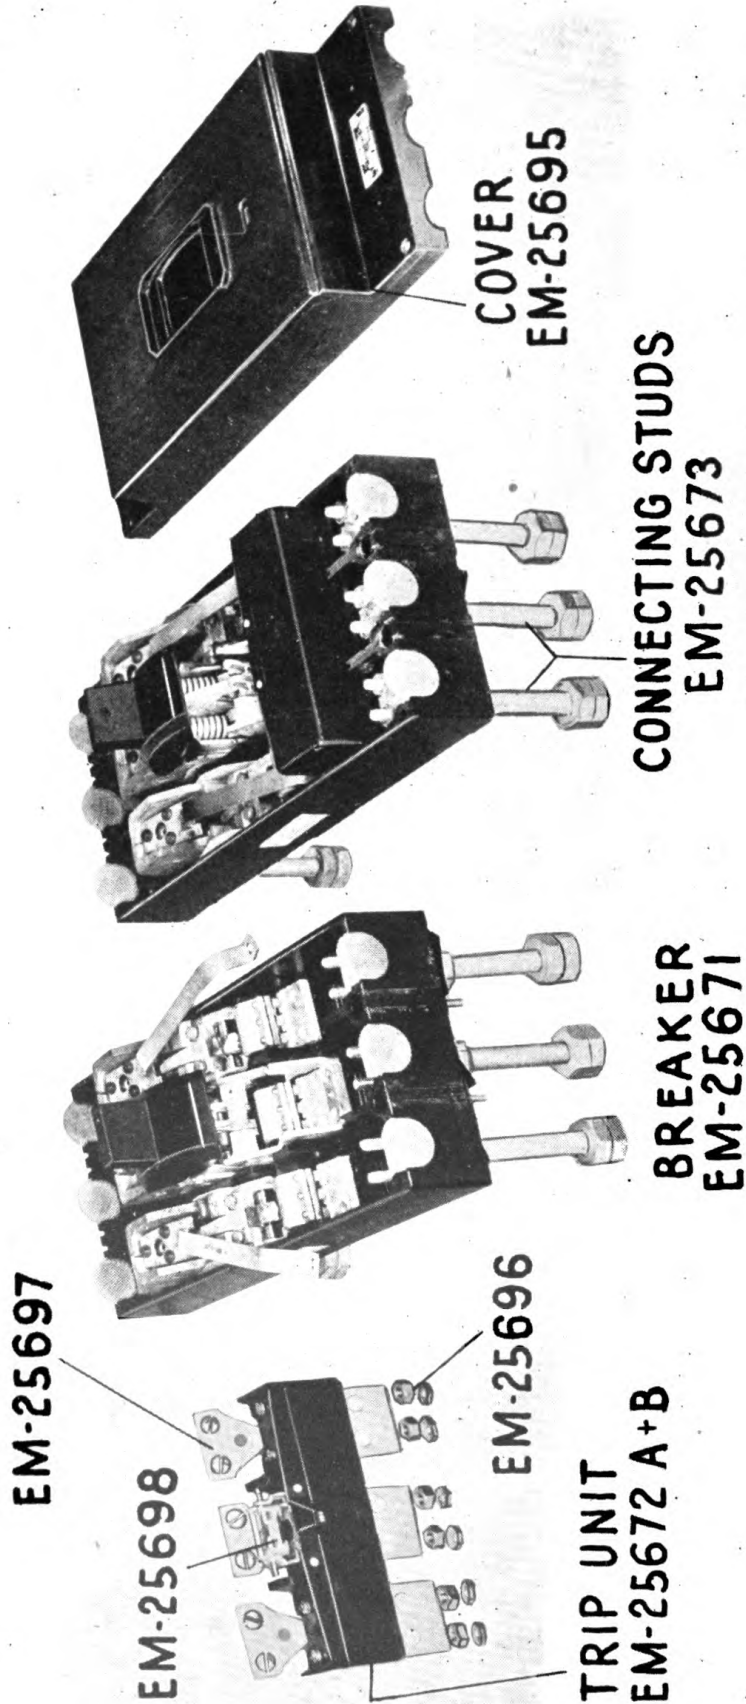

FIG. 7—Breaker Overload Trip Unit Arrangement
- Figure 7 Breaker overload trip unit arrangement.